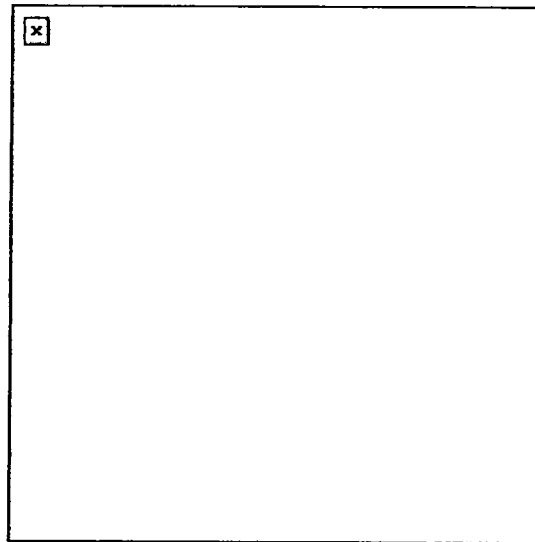

Figure 7. Secondary drive lever.
- (2) Lift out the secondary drive lever from the top cover (Figure 7).